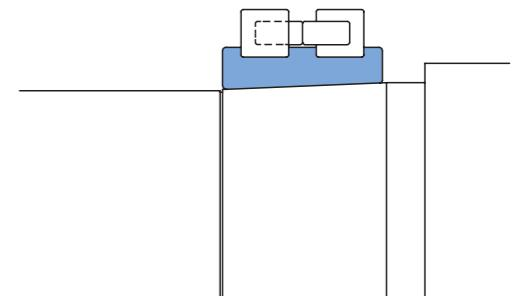
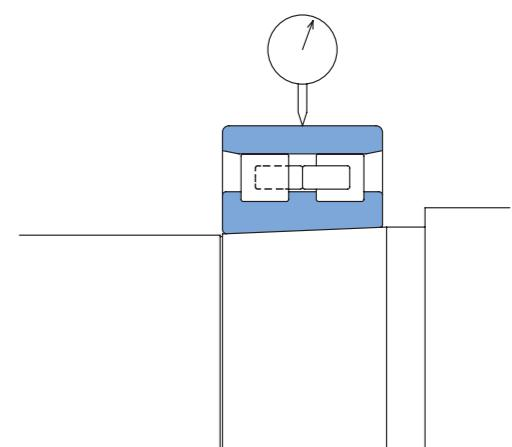
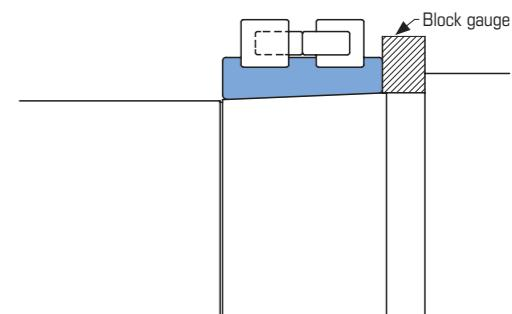

Figure 9.8 Inner Sub-unit Temporary Tightening
Figure 9.9 Radial Clearance Measurement
Figure 9.10 Spacer Temporary Width Dimension Measurement
- ① Check the shaft taper. Coat the taper with a thin layer of bluing; 80% or more contact is required.
- ② Lightly place the inner sub-unit onto the shaft taper (Figure 9.8).
- ③ Place the outer ring and fix the shaft horizontally.
- ④ Touch the center of the outer ring with a dual gauge probe.
- ⑤ Pressing down on the outer ring from above, rotate it left and right a few times so it fits well, and then zero set the dial gauge.
- ⑥ Push the outer ring straight up 180° from its position of symmetry (directly below), and rotate it slightly left and right to take a reading of its maximum value (Figure 9.9).
- ⑦ Change the position of the shaft at steps of approximately 30°, measure the axial displacement, and calculate the average of the readings as the value of  $D_R$ .
- ⑧ Use a block gauge to measure the length to the inner ring edges surface and shaft shoulder (Figure 9.10).
- ⑨ Change the position and use the average of five or six locations as the value for  $L'$ .
- ⑩ Use Formula 9.3 to determine the wide dimension of the required spacer.